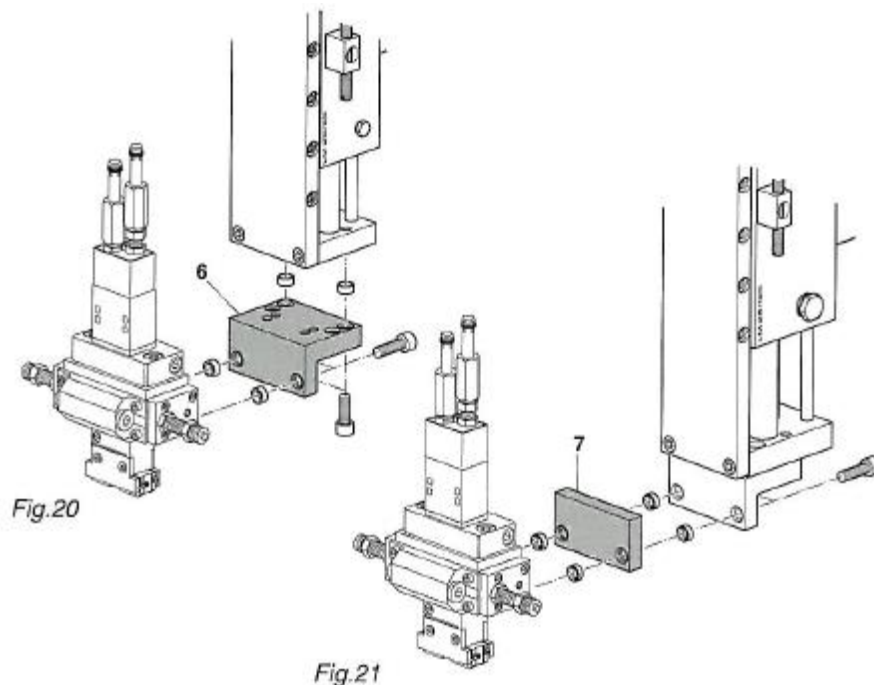
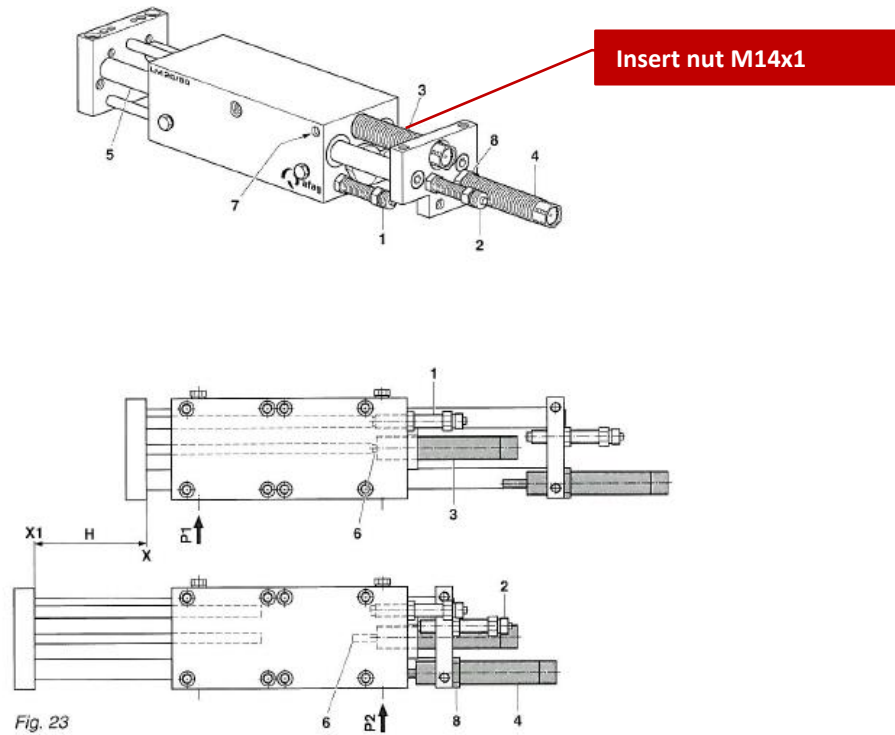

Fig. 17 Attachment of mounting bracket or intermediate plate (LM 25)
Fig. 20 Stroke adjustment with stop screws
Mounting bracket (Fig. 20)
The linear modules can be supplied in various versions (Fig. 20).
- (A) Linear module LM 20 /25: The standard equipment includes two stop screws AS 08/40 (Fig. 17, 1) and two shock absorbers SD 14/16 (Fig. 20, 2) for end position adjustment.
- (B) Base plate LM 20/25: A stroke module can be realised with the help of the base plate (Fig. 17, 3). The base plate also serves as stabilisation and can be machined by the customer.
- (C) 3. Position LM 20/25: In combination with the LM 32 modules, a simple solution of a 3. Position (Fig. 17, 4) can be realized. This can be used in the entire stroke range of the linear module and the end position is damped and can be acknowledged with an initiator.
- (D) Intermediate plate LM 20: The intermediate plate (Fig. 17, 5) enables an LM 20 to be combined with another LM 20 module.